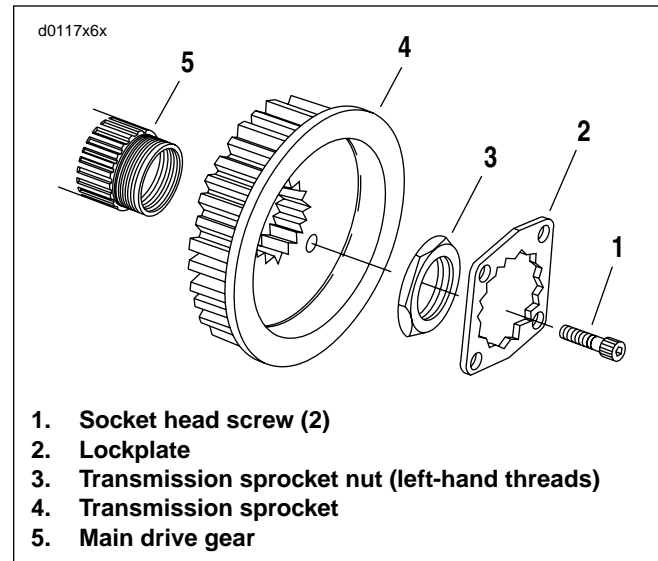

Figure 6-100. Transmission Sprocket
- See Figure 6-100. Place transmission in first gear. Remove two socket head screws (1) and lockplate (2).
1. See Figure 6-100. Install transmission sprocket (4) with secondary drive belt onto main drive gear (5).
3. Apply a few drops of LOCTITE 262 (red) to the **left-hand threads** of transmission sprocket nut (3) and lightly coat the washer-faced side with clean H-D 20W50 engine oil. Wipe off any excess oil.
9. See Figure 6-100. Install lockplate over nut so that two of lockplate's four drilled holes (diagonally opposite) align with sprocket's two tapped holes.
10. See Figure 6-100. Install two socket head screws through aligned holes of lockplate and into tapped holes of sprocket. Tighten to 90-110 **in-lbs** (10.2-12.4 Nm).
See Figure 6-100. The original equipment socket head screws (1) have thread-locking compound applied to them. Since this compound remains effective for about three removal/installation cycles, the original screws may be reused up to three times. After the third removal/installation cycle, replace both screws with **new** screws identical to the original.